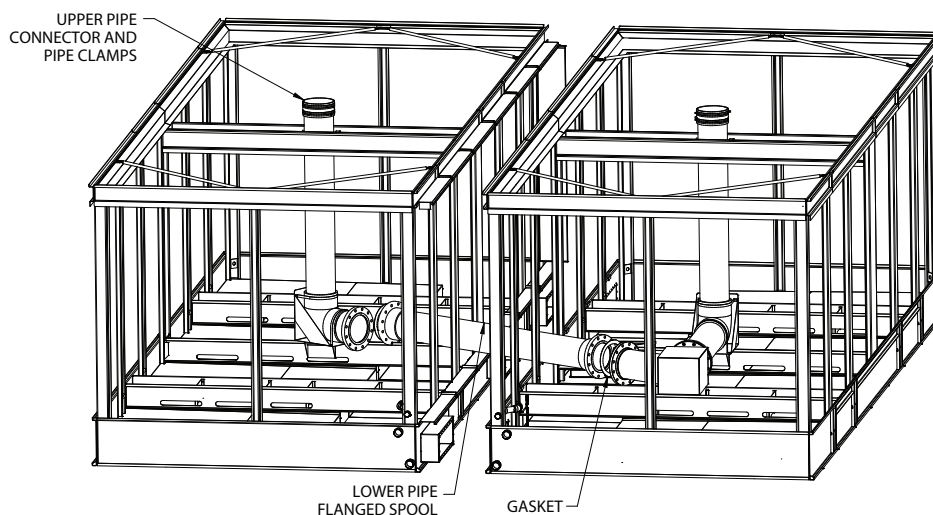

Figure 8 - Installation of Bottom Inlet Piping
6. After tower is fully installed, insert the lower pipe flanged spool with gaskets between flanges, as shown in Figure 8. Use hardware noted in Table 2